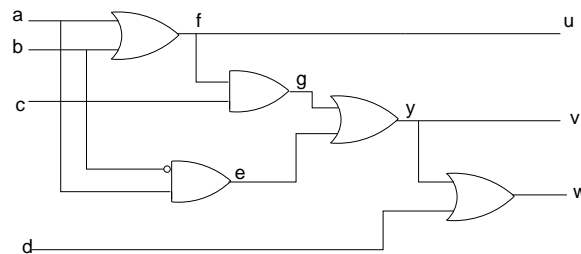

Fig. 2. The specification circuit for the rectification problem
- a) Consider the circuit of Fig. 2. Assume that this is a “specification” model. Write the corresponding BLIF file for this circuit: spec.blif.